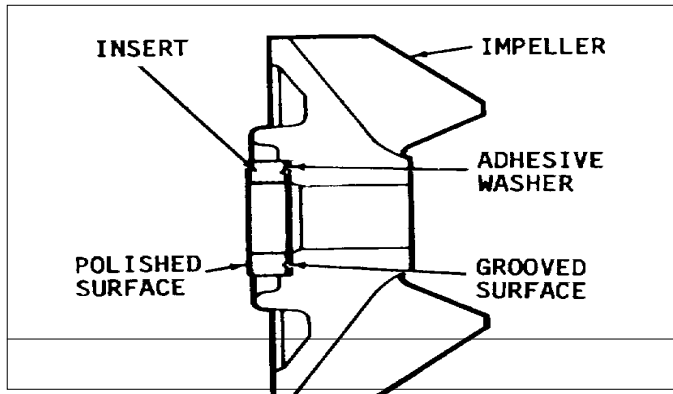

Fig. 2 Impeller with Ceramic Insert
- (c) Place the adhesive washer in the impeller bond area with the ceramic insert on top. The polished face of the ceramic insert should be visible to the assembler (Fig. 2).